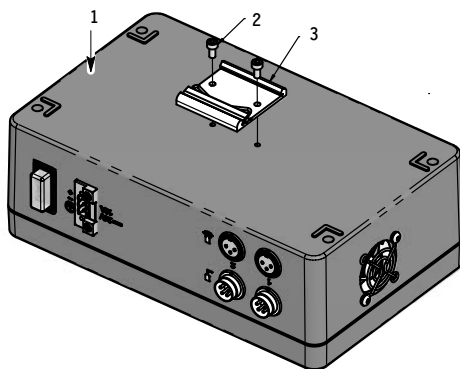

Figure 10: Sapphire driver - Bottom view
1. Refer to Figure 10. Turn the driver upside down on a clean flat surface.